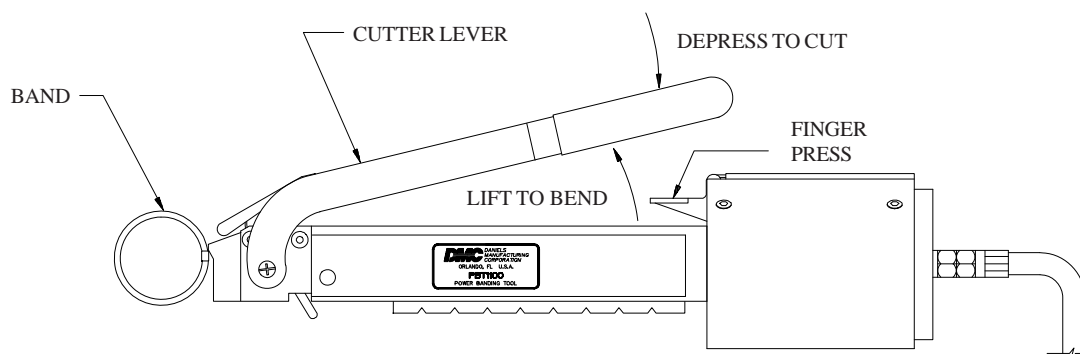

FIGURE 3
- 1.5 To complete the termination, the band must be bent 90° by lifting the cutter lever upward and then cutting it by depressing the lever downward (see Figure 3).